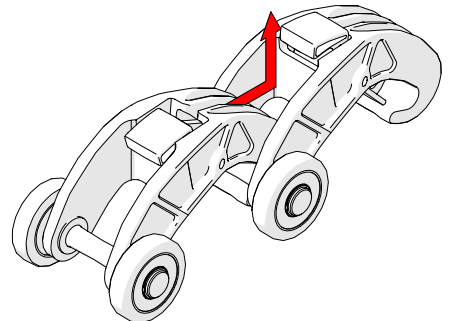

Fig. 49 - Slide QuickLink forward and lift
2. While pressing the button, slide the QuickLink forward and up, clearing the hook of the QuickLink from the 2nd QuickLink's axle (Fig. 49).